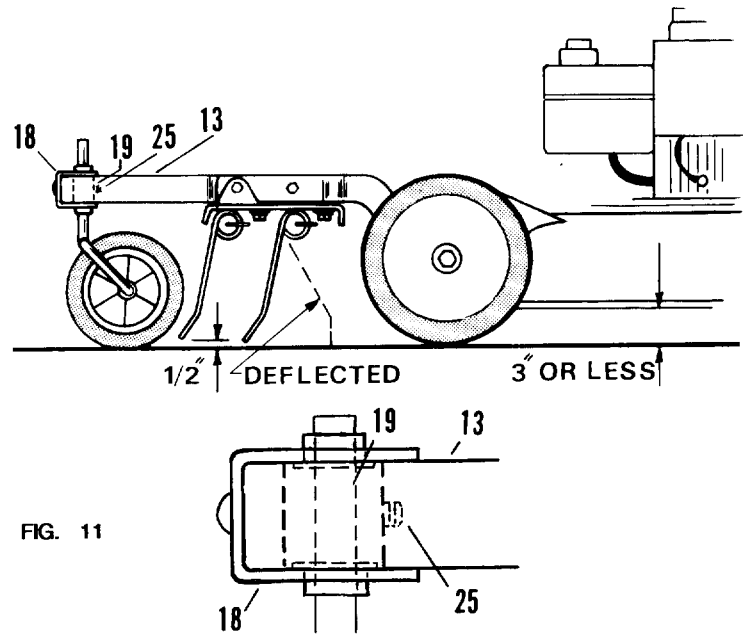

FIG. 11
Fig. 11. With the dethatcher mounted to your mower, position both units over a smooth flat surface such as a sidewalk, driveway or garage floor. Adjust the mower height (check your Owner's Manual for correct procedures) to 3 inches or less and with the gauge wheel directly under the wheel mount brackets (18), loosen the set screw (25) in axle bushing (19) and adjust the frame bar (13) until the tine tips are approximately 1/2" above the flat surface in the "free" position, and touch the surface when deflected rearward. Now tighten the set screw (25).